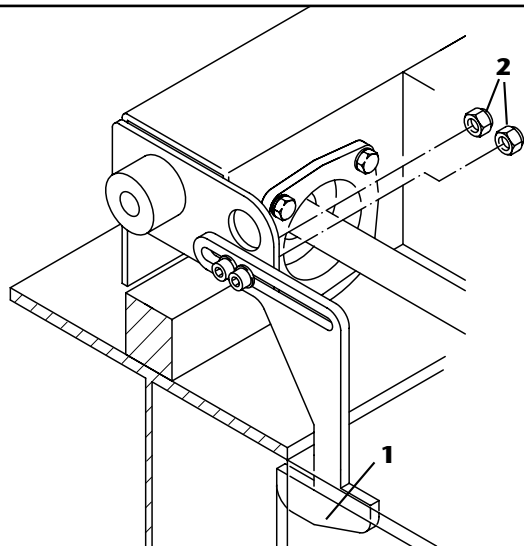

fig. 179
- Remove the antiderailing devices -1- by unscrewing the relative nuts -2- (fig. 179)